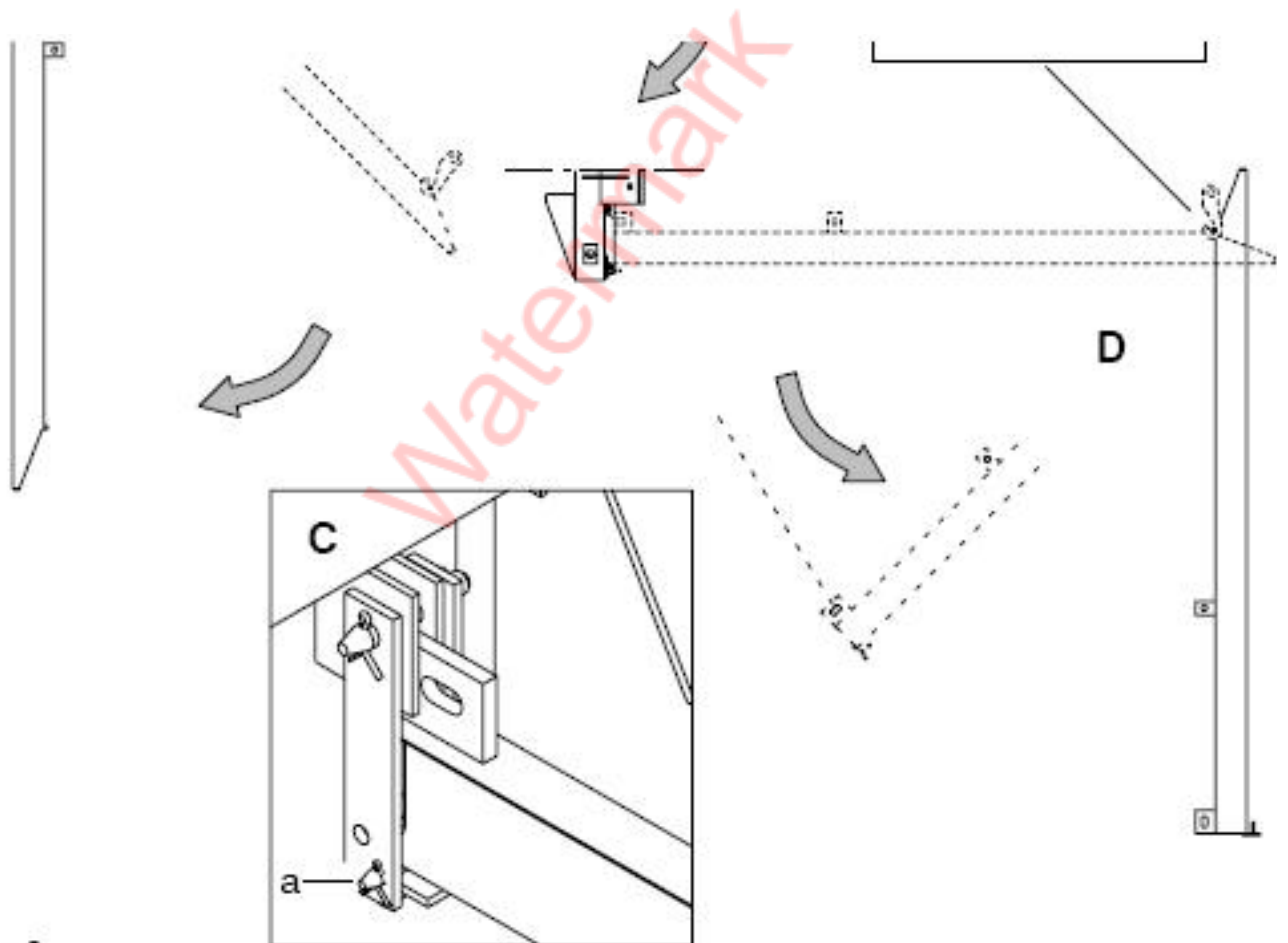

Figure 2
_ Lower the pulley block, the monorail folds down alongside the mast, free the hook (Detail A – Figure 2).
NOTE: When the monorail is to be completely dismantled for use on another machine, continue the operations from the moment of hooking up the monorail at the round bar (2) (Detail B – Figure 2).
- _ Remove shaft (a) (Detail C – Figure 2).
- _ Slacken the cord and lower slowly (Detail D – Figure 2).
- _ Take off the monorail support plates (1) and the shafts (a–b–c–d–e) which will be reused.